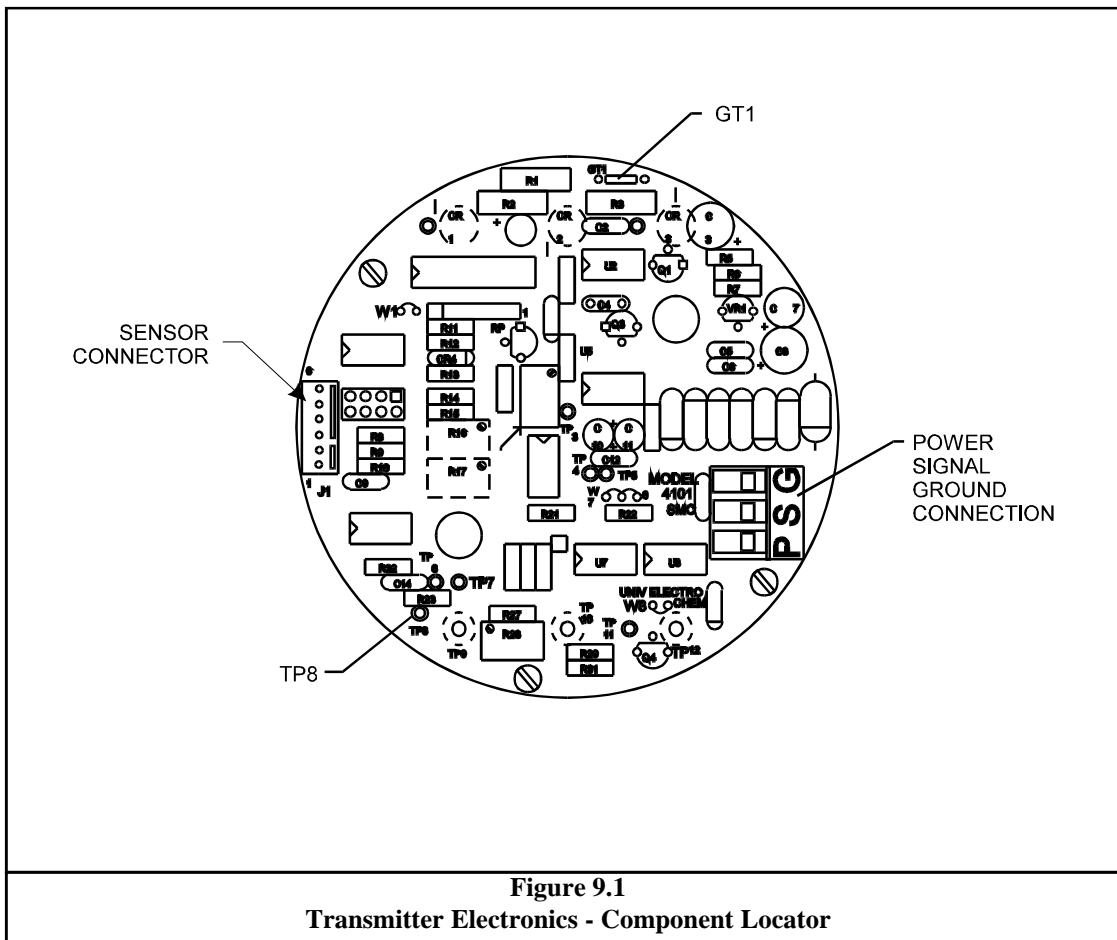

Figure 9.1
4. Connect a DVM across TP8 and GT1 on the transmitter assembly (Figure 9.1).